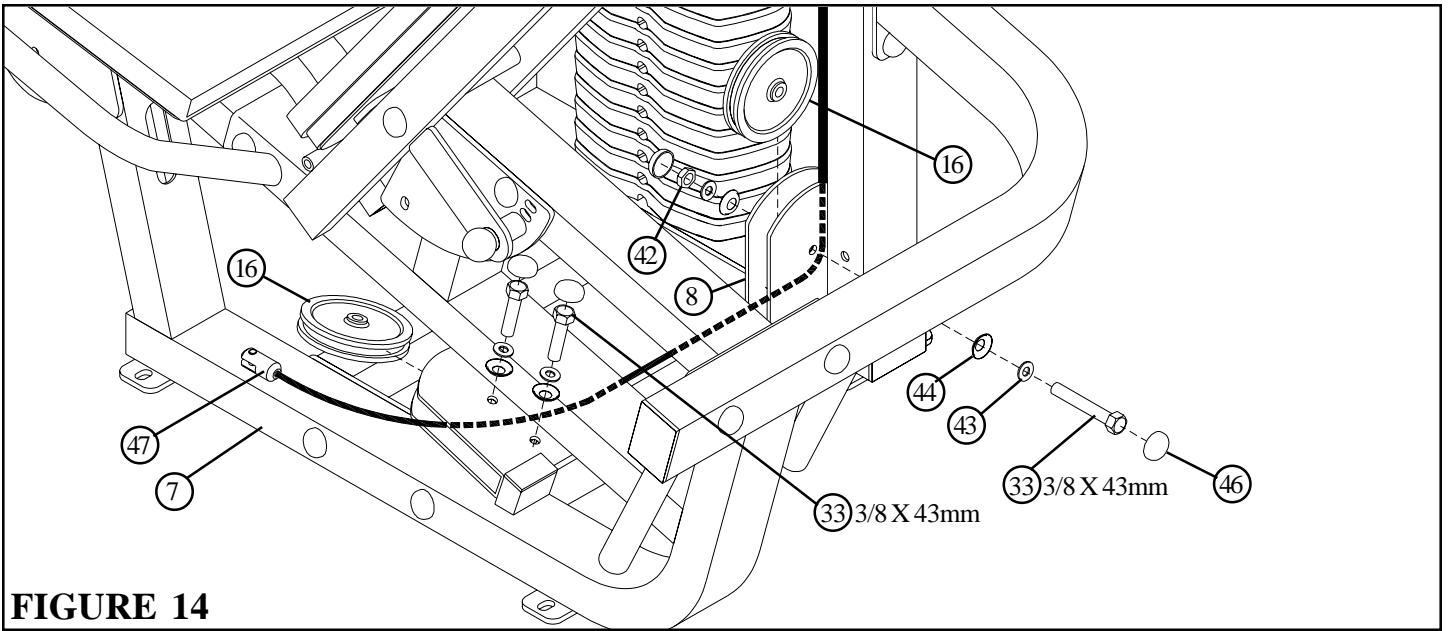

FIGURE 14
- Route the LEG CURL/EXT CABLE (47) through the vertical bracket on the BASE (8) and **SECURELY** assemble one 4-1/2" PULLEY (16) to the bracket using two RH CAPS (46), one 3/8 X 43mm BOLT (33), two 3/8" SAE WASHERS (43), two 3/8" RH WASHERS (44) and one 3/8" LOW HEIGHT LOCK NUT (42) as shown in FIGURE 14. (**NOTE: Make sure CABLE runs over top of retaining pin.**)
- Route the LEG CURL/EXT CABLE (47) through the horizontal bracket on the FRAME (7) and **SECURELY** assemble one 4-1/2" PULLEY (16) to the bracket using two RH CAPS (46), two 3/8 X 43mm BOLTS (33), two 3/8" SAE WASHERS (43) and two 3/8" RH WASHERS (44) as shown in FIGURE 14. (**NOTE: Make sure CABLE runs over top of retaining bolt.**)